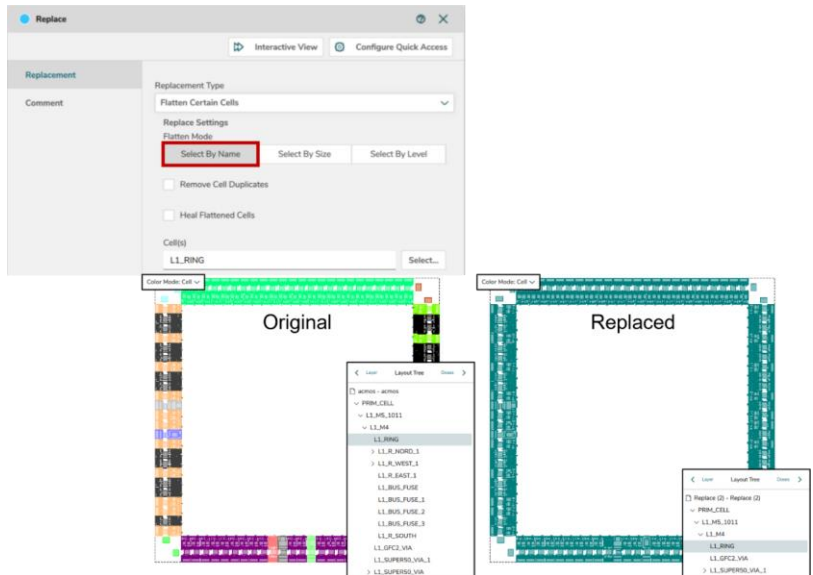

Figure 17. (Left) 'L1\_RING' cell in a CMOS layout composed by several cells and (Right) cell 'L1\_RING' flattened.
- **Select By Name:** In the figure is shown the cell 'L1\_RING' which is formed with many base-shapes. After flattening, all the composing parts are united to form a single base pattern (see Fig. 17).